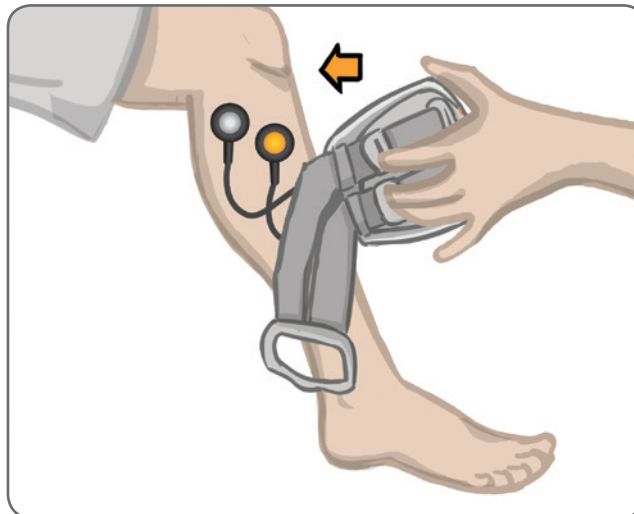

Figure 8-5: Positioning the Locator Below the Patella
6. Position the locator of the lower leg FS Cuff below the patella, over the tibial plateau. See Figure 8-5. Make sure the FS Cuff does not touch the electrode bases. The locator should fit snugly but comfortably under the inferior pole of the patella.